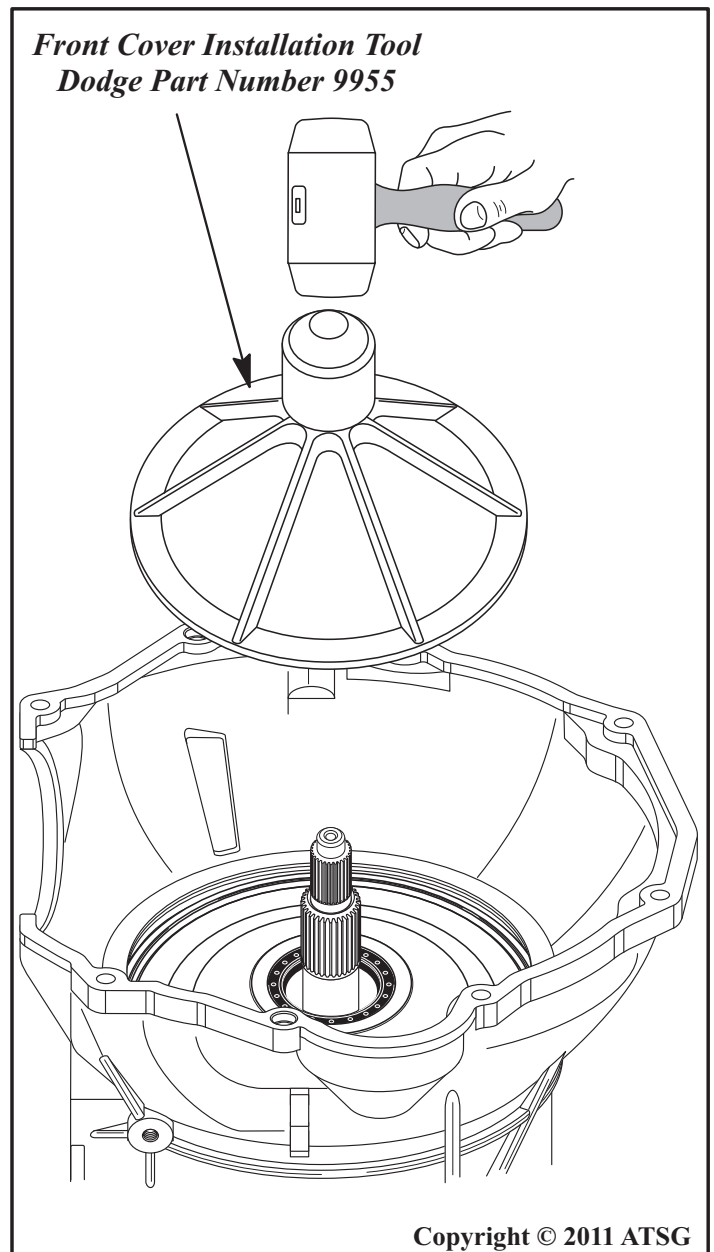

Figure 157
*Note: Dodge has an installation tool available that allows this to be done without any damage to the front cover, as shown in Figure 157.*